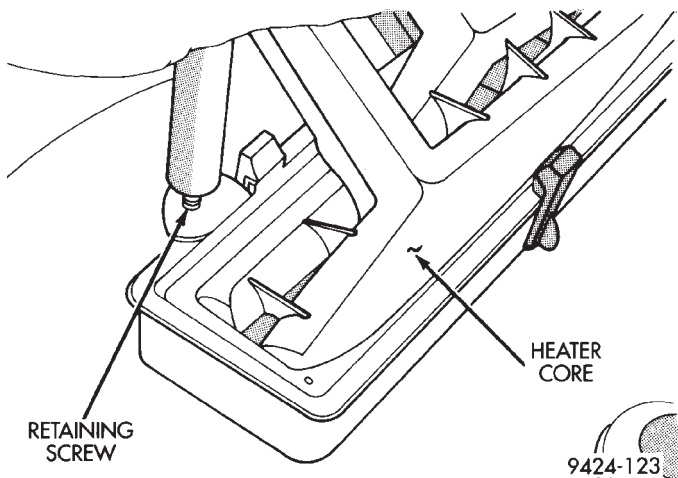

Fig. 48 Heater Core
- (1) Push new heater core into the unit housing.
- (2) Fasten heater core to unit housing with screws provided with new heater core (Fig. 48).
- (3) Install unit housing into vehicle.
- (4) Reconnect battery.